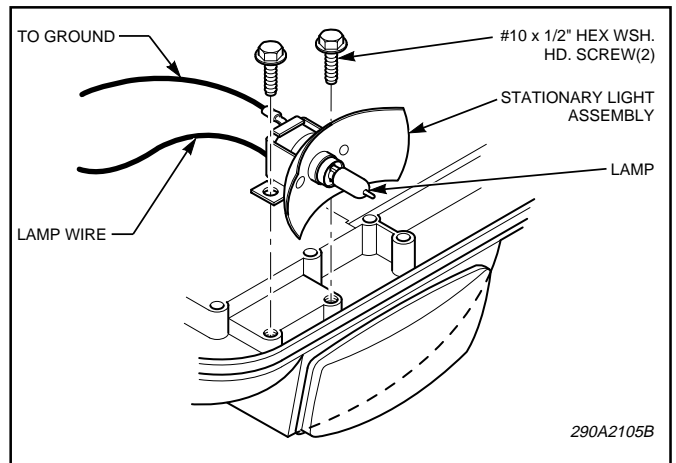
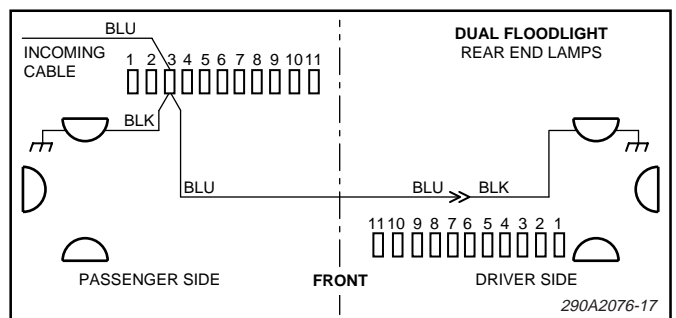

Figure 2.
Figure 3.
2. Remove three (3) type "B" hex washer head thread-forming screws which secure the upper speaker grille to the lower speaker grille. Lift upper grille away from lower grille.
B. INSTALLATION OF STATIONARY LIGHT ASSEMBLY (see figure 2).
1. Secure the stationary light assembly to the pod with two (2) #10 x 1/2 hex washer head screws (supplied).
2. Connect the ground wire and lamp wire as shown in figure 3. When installing the lamp, do not touch glass portion. If glass end has been handled, it should be carefully cleaned with a grease solvent.